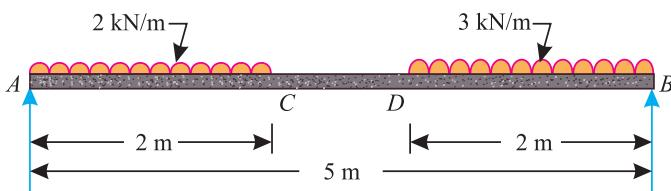

Fig. 16.15.
4. A beam of span 5 m is supported at *A* and *B*. It is subjected to a load system as shown in Fig. 16.15.